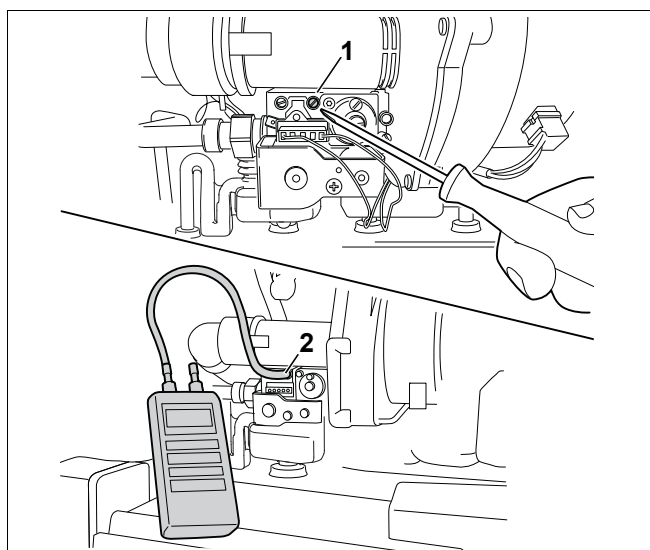

Fig. 36 Checking the gas/air ratio
- Loosen the screw plug on the measuring nipple for the burner pressure by two rotations (fig. 36, pos. 1).
- Use a hose to connect the plus terminal of the pressure gauge to the burner pressure measuring nipple (fig. 36, pos. 2).